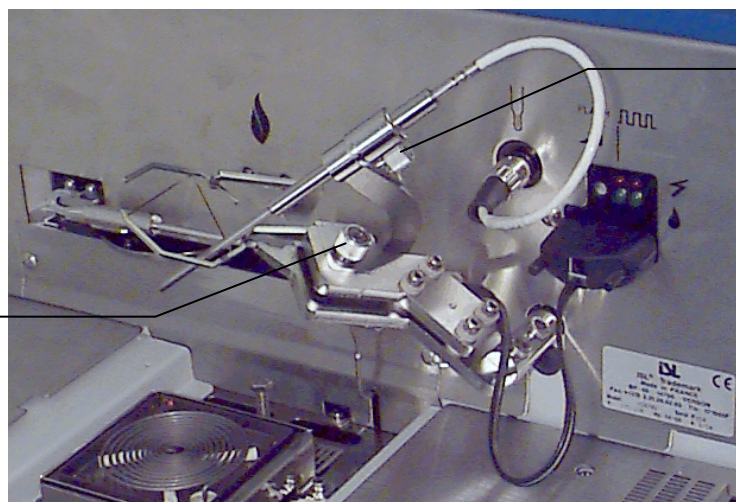

Figure I-11
3. Clean the cup, the flash detection probe and the temperature probe with a suitable cleaning agent. In general, all dirty accessories, including the test flame nozzle, that might affect the test run result should be cleaned. Depending on the state of the different accessories, for example the choker, they may be disassembled for a thorough cleaning. The use of knurled screws make the assembling/disassembling procedures more easier (no particular tools are needed; see the figures Figure I-10 and Figure I-11 below).